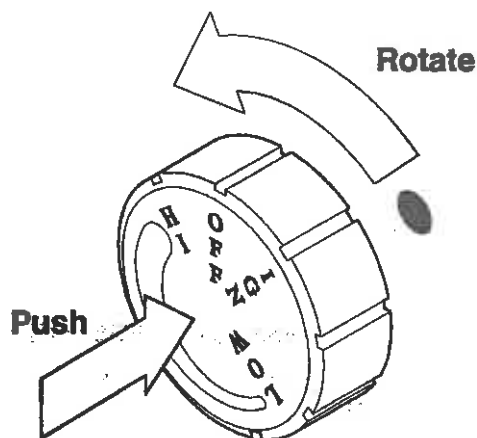

FIGURE 16. Control Knob
6. Turn the gas control knob counterclockwise  to the IGN position (FIGURE 16). Push in and hold control knob for 5 seconds.